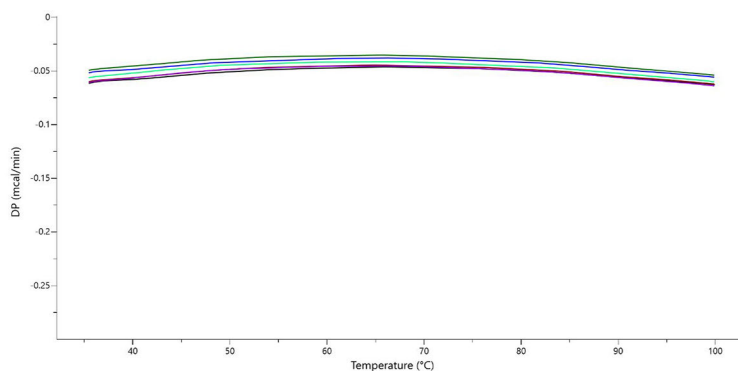

Figure 7.3 6 buffer-buffer scans with clean cells
- In raw thermograms, matched water-water or buffer-buffer scans are not repeatable (see Figure 7.4 compared with Figure 7.3).
- In raw thermograms, matched water-water or buffer-buffer scans are below 0 mcal/min (see Figure 7.4 compared with Figure 7.3).
- DP values drift negatively from first to last sample in sequence (see Figure 7.4 compared with Figure 7.3).